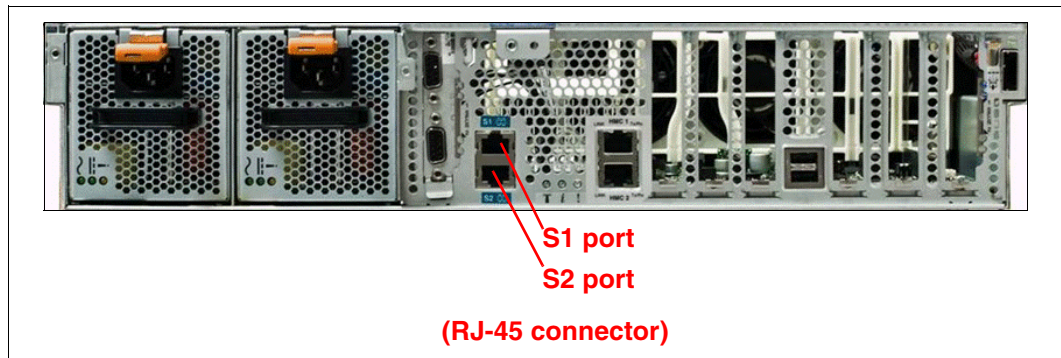
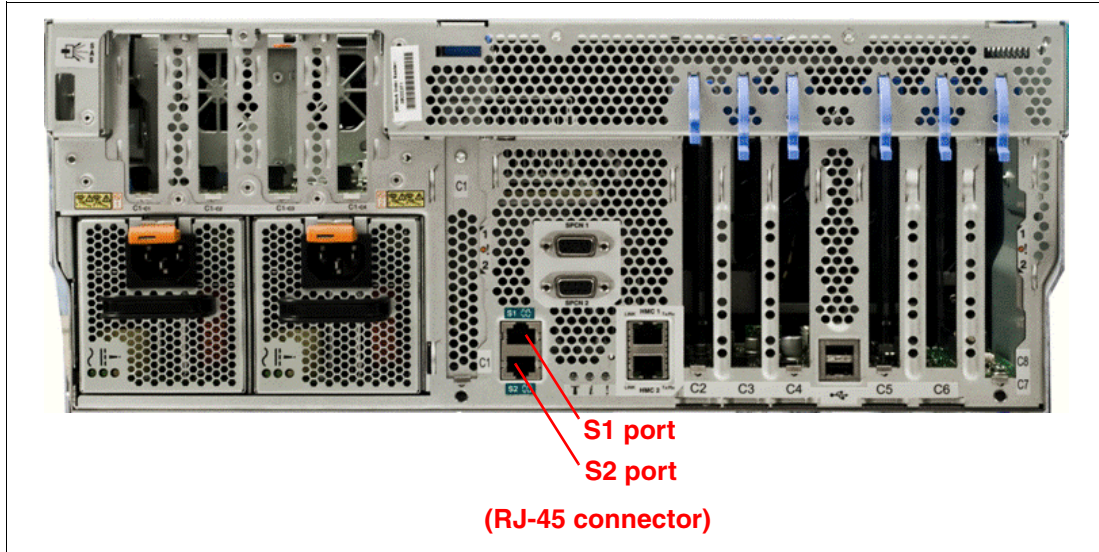
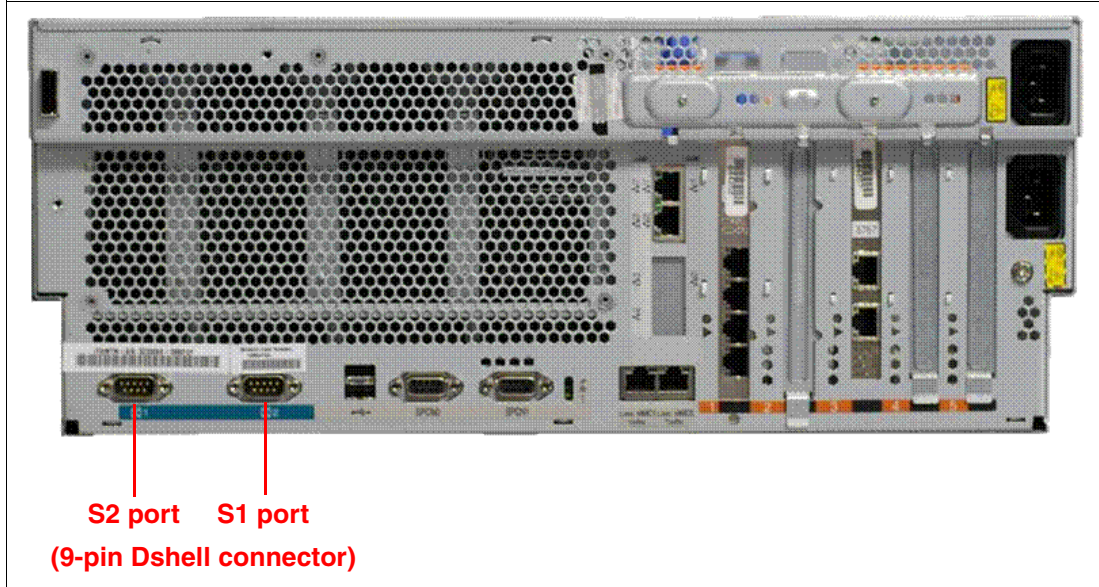

Figure 2-11 Power 730/Power 740 rear view
Figure 2-12 Power 720/Power 740 rear view
Figure 2-13 Power 750 rear view
1. By using a serial cable, connect the ASCII terminal to system connector 1 (P1-T1, which is the default) or 2 (P1-T2) on the rear of the server, as shown in Figure 2-11, Figure 2-12 on page 38, and Figure 2-13 on page 38.